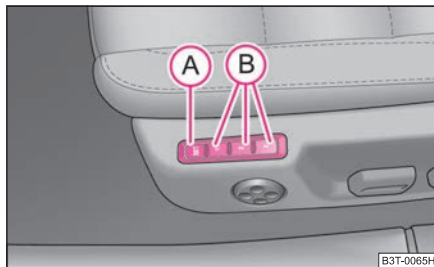

Fig. 64 Driver seat: Memory buttons and SET button
- Press button **SET** (A) ⇒ fig. 64.
- Press one of the memory buttons (B) within 10 seconds after pressing the button **SET** – an acknowledgement signal confirms that the seat setting is stored.
Memory for the seat offers the possibility to store the individual driver seat and external mirror position. An individual position can be allocated to each of the three memory buttons (B) ⇒ fig. 64, that is three in total. After pressing the corresponding memory button (B), the seat and the exterior mirror are automatically moved into the positions which have been allocated to this button ⇒ page 74.
- **One-touch automatic memory:** Briefly press the desired memory button **B** ⇒ page 73, fig. 64. The seat and exterior mirror are moved automatically into the stored positions (this applies only if the ignition is switched on and the speed is less than 5 km/h).